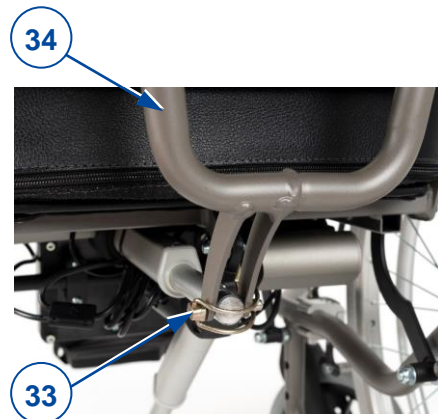

Figure 4 *Inovys II base frame with 16'' and 24'' wheels - disassembled parts*
10. Make sure that the shoulder-belt restraints fit over the shoulders, see figure 4.